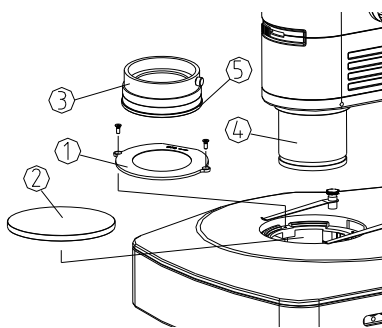

Fig. 24
1) Take off the worktable ② from the base, and fix the polarizer group ① onto the base with a M3 sunk key (make the flat side of polarizer group ① close to the pillar), then put back the worktable ②. (See Fig. 24)
2) Loop the analyzer group ③ on the outside diameter of main objective ④, and lock it with the lock screw of analyzer group.
3) Rotate the adjusting ring ⑤ of analyzer group ③, to adjust the vibrated direction of the analyzer, which is 360°rotatable.